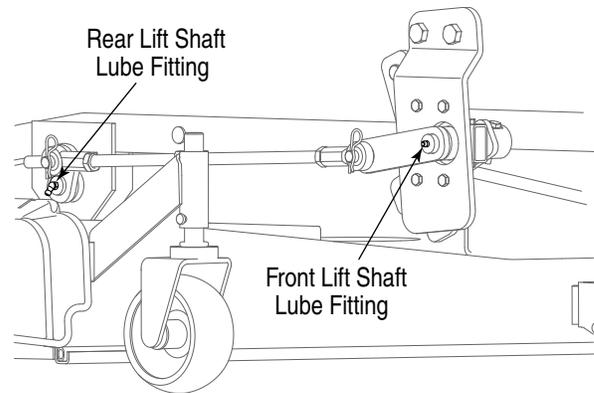

Figure 26
- After every 10 hours of operation, lubricate the two lift shafts on both the RH and LH subframe assemblies with 251H EP grease or an equivalent No. 2 multipurpose lithium grease. See Figure 26.